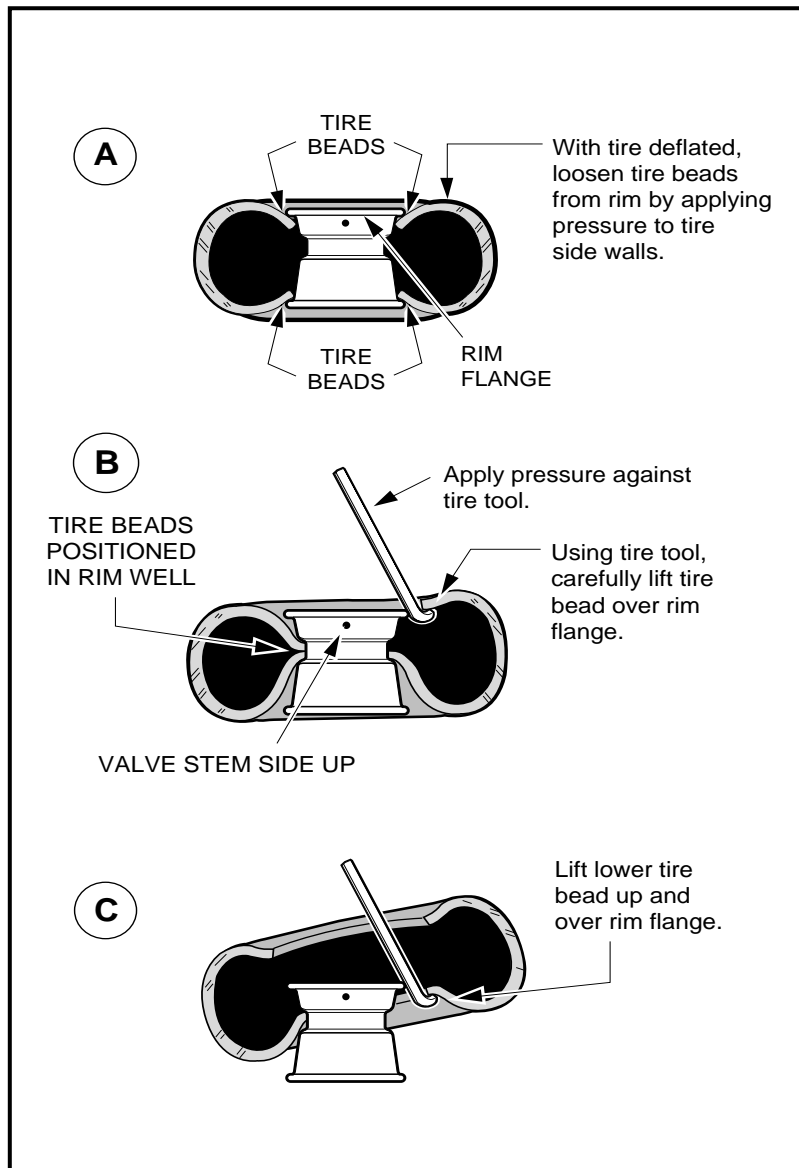

Figure 8-1 Tire Removal
- 3.1. If a tire machine is not available, loosen both tire beads by applying pressure to the tire side walls and pushing the tire bead away from the rim flange and into the rim well (**Figure 8-1, Page 8-2**).
- 3.2. With the valve stem side of the wheel up, use a tire tool to carefully start the upper bead over the edge of the rim (**Figure 8-1, Page 8-2**).
- 3.3. When the top bead is free of the rim, pull the bead from the bottom side of the rim up into the upper part of the rim well. Insert the tire tool under the lower bead as shown (**Figure 8-1, Page 8-2**) and carefully pry the lower bead over the rim flange.